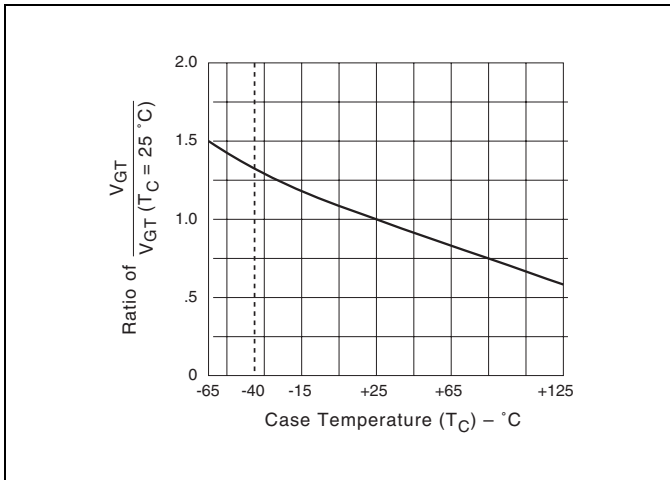

Figure E4.7 Normalized DC Gate Trigger Voltage for all Quadrants versus Case Temperature
- (6) See Figure E4.7 for VGT versus TC.